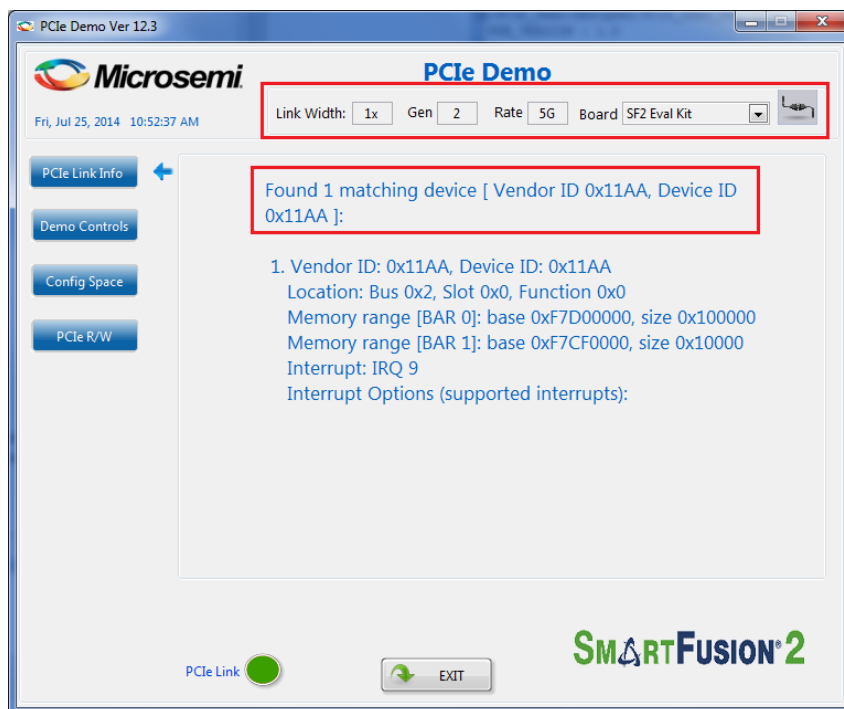

Figure 62 Version Information
- Click **Connect** icon at the top-right corner of the GUI. The Link Width, Gen, Rate, and Type of Kit are displayed on the GUI as shown in Figure 62.